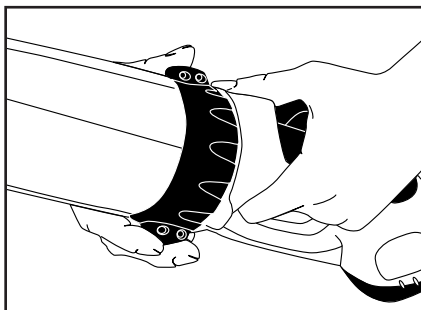

Figure 11
1. Grasp the saw head or pole firmly with one hand and twist the lock ring to the unlocked position with the other hand. (see figure 11)